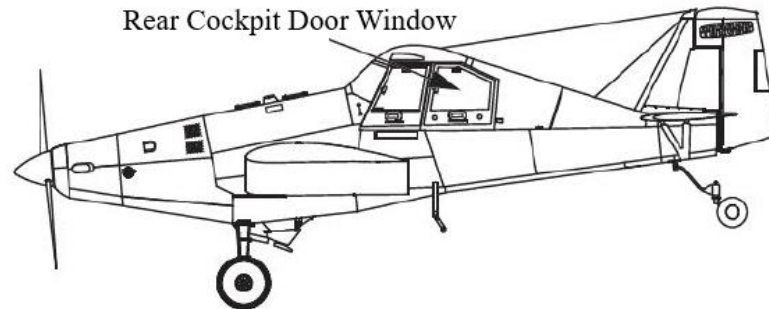

Figure 9: Dual Cockpit Door Window
1. Locate 19630 Rear Cockpit Door (L/H) as shown in Figure 9.